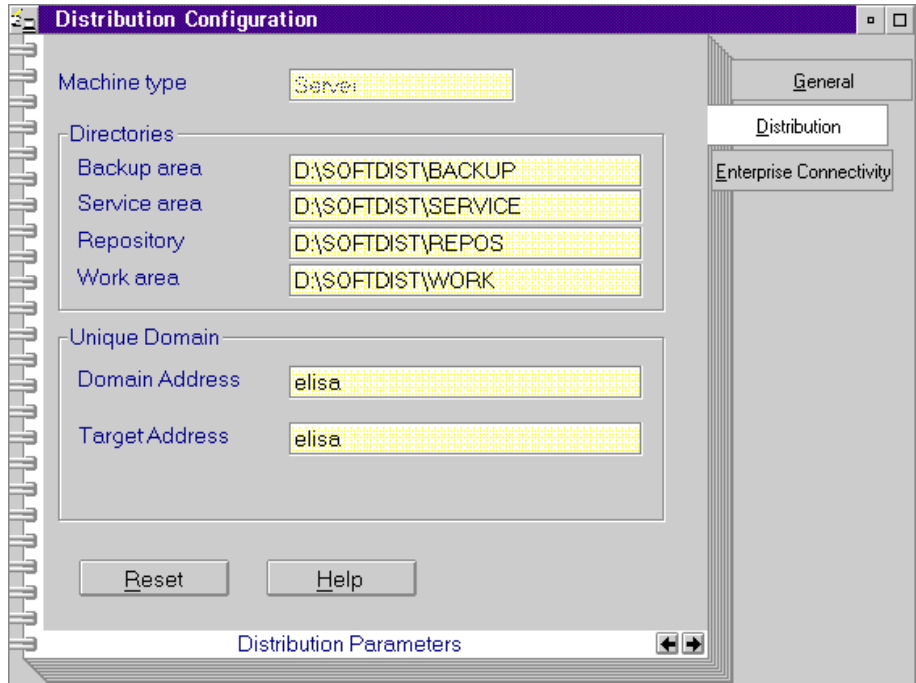

Figure 14. Distribution Configuration Notebook distribution page - Server
- 8 Use the Distribution page of the Distribution Configuration notebook, shown in Figure 14, to select software distribution configuration parameters.